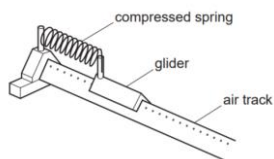

Fig. 6.2
- c) A glider of mass 0.180 kg is placed on a horizontal frictionless air track. One end of the glider is attached to a compressible spring of force constant 50 N m^{-1} . The glider is pushed against a fixed support so that the spring compresses by 0.070 m, see Fig. 6.2. The glider is then released.